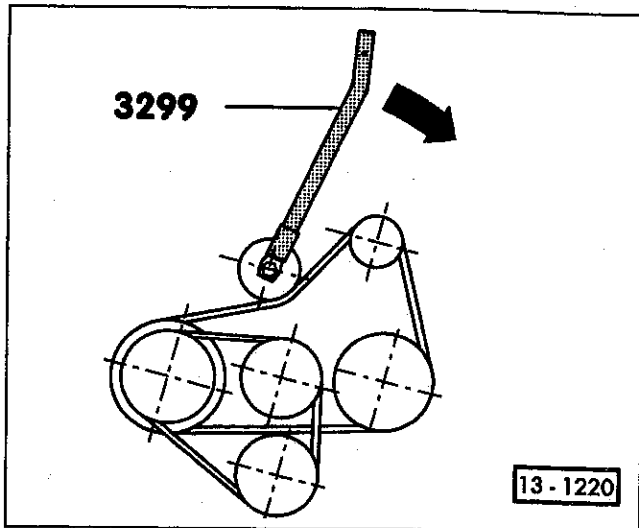

Fig. 21. 4-cyl. engine with belt tensioner: Belt tensioner being lifted with spanner wrench (Volkswagen special tool no. 3299).
- On cars with separate belt tensioner, pivot belt tensioner off belt using appropriate spanner wrench (Volkswagen special tool no. 3299). See Fig. 21.